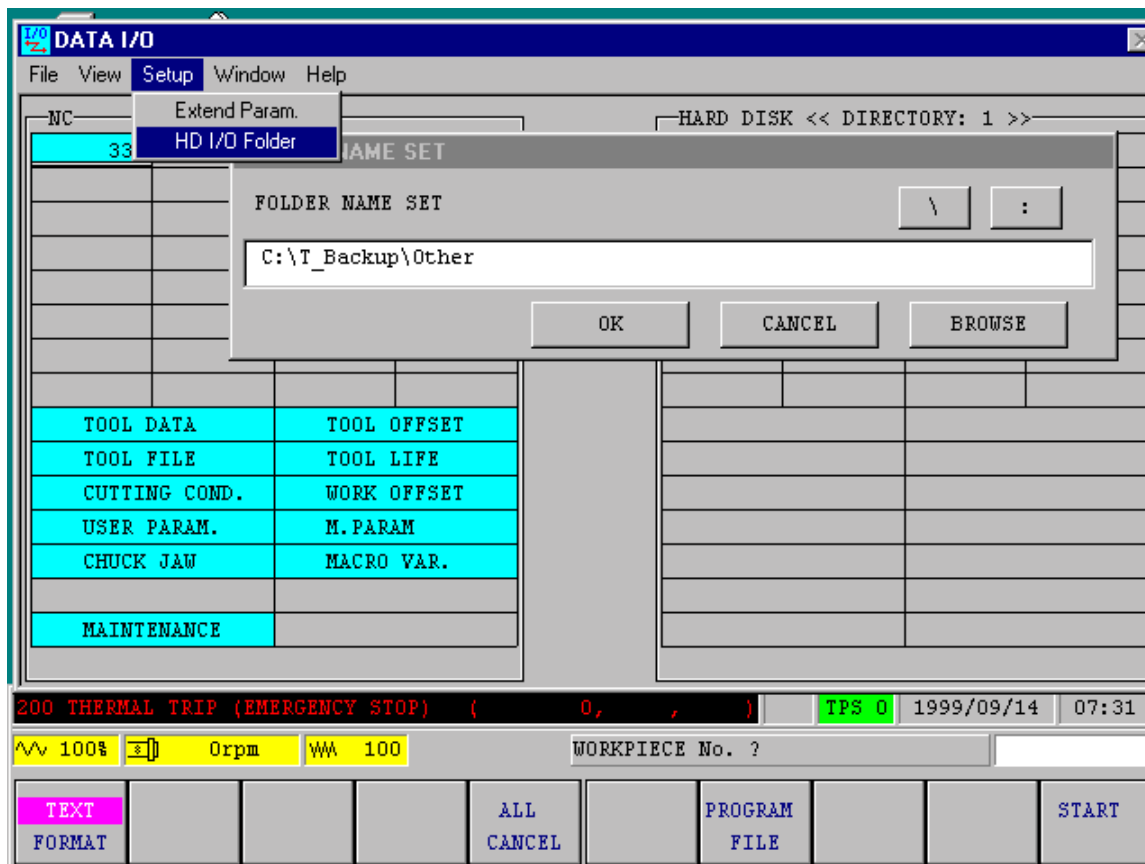

figure 1 Shows where Text Format button was added. If you wish to view the actual saving of each file, go to “View” and click on “I/O Status”.
- 6) If you wish to change to different folder than T_Backup/Other, select "Setup" and enter in the new path(see figure 1).